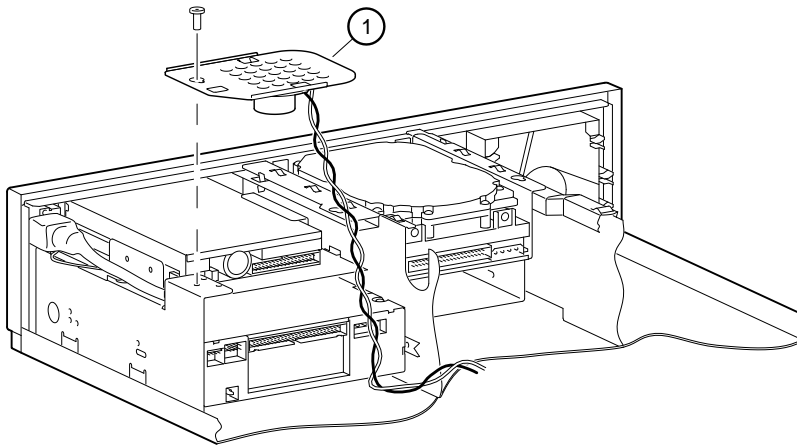

Figure 3-18. Removing the Speaker
5. Loosen the screw so that you can remove the speaker ①, as Figure 3-18 shows.